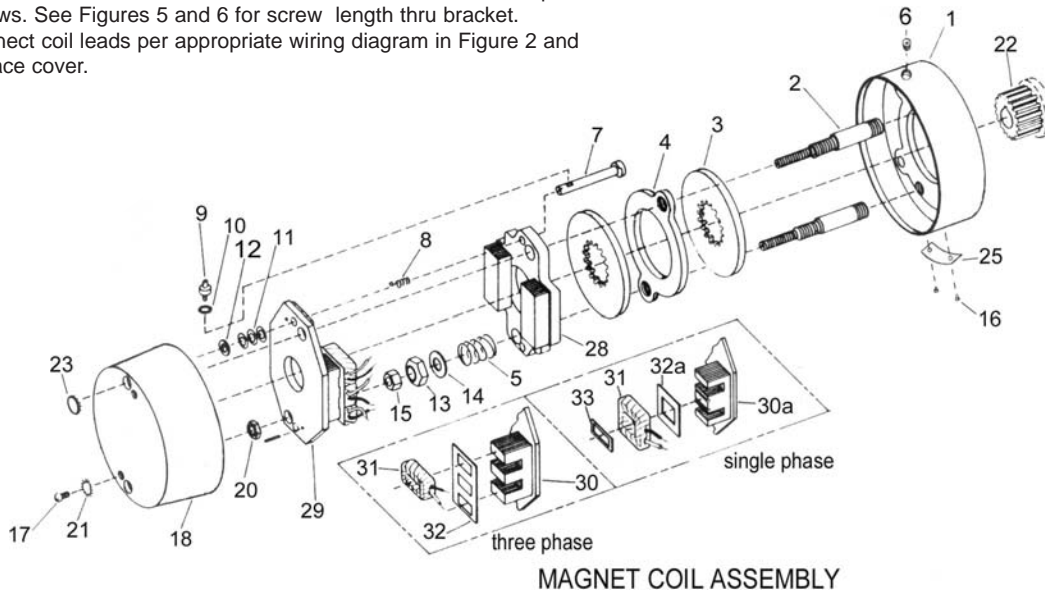

Figure 3. Exploded View of Brake
(See Figures 3 & 5, Tables 1 & 2)
(See Figure 3)
(See Figures 3 & 5)
(See Figures 3 & 5, Table 2)
When assembling a standard manual release mechanism (Figure 3), add only enough shim washers (11) to obtain proper release action. Too many shim washers will prevent automatic reset when electrical power is applied. Too few washers will prevent the motor shaft from turning freely. Replace stop screws (9). Wind each torsion spring (8) approximately 1/4 turn and hook spring loop over pin.
(See Figures 3 & 4)